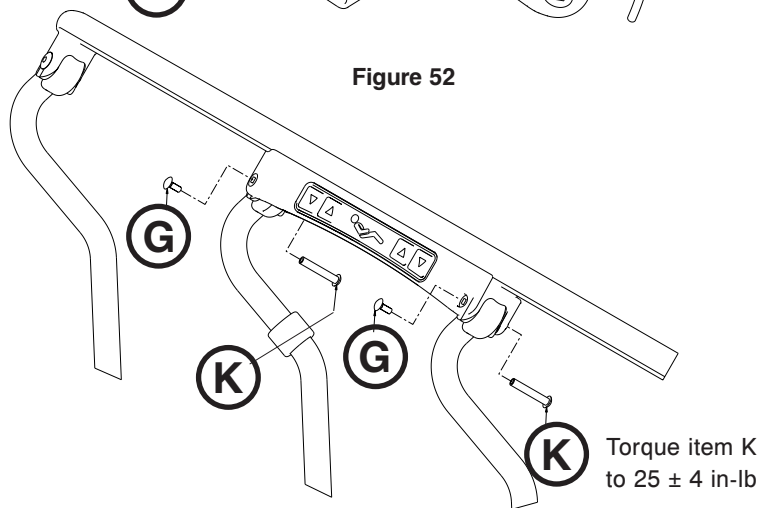

Figure 53
17. Using a #2 Phillips screwdriver, remove the two barrel nuts (K) that secure the control pad support to the top rail and set aside (Figure 53).